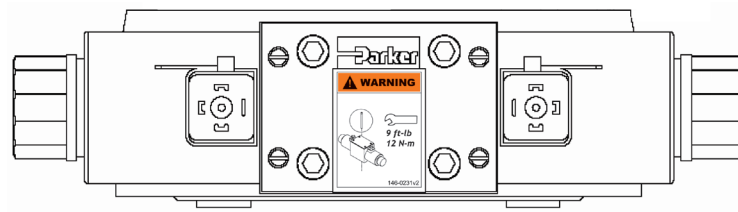

Figure 25
- 1.3 Remove the four mounting bolts and using an eye-end bolt 5/8-11UNC screwed in the center of the hydraulic control assembly, lift it straight up to clear the control seat. (see fig. 25)